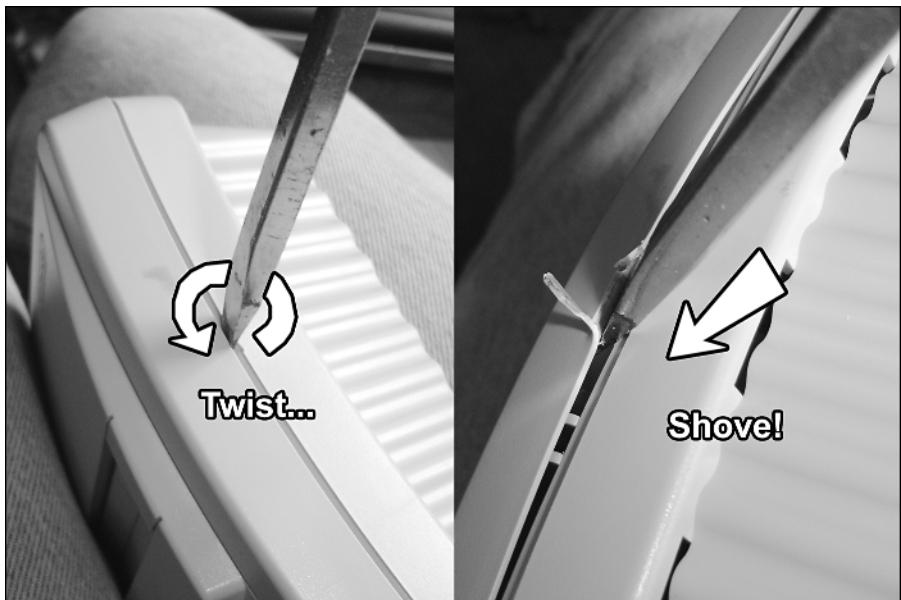

FIGURE 9-2: The screwdriver begins its attack on the mini-SNES.
1. Stick the screwdriver into the seam between the halves of the case near a screw post as shown in Figure 9-2. Twist and shove it in until you get through. Take care not to get your fingers in there, as they may get pinched or cut.